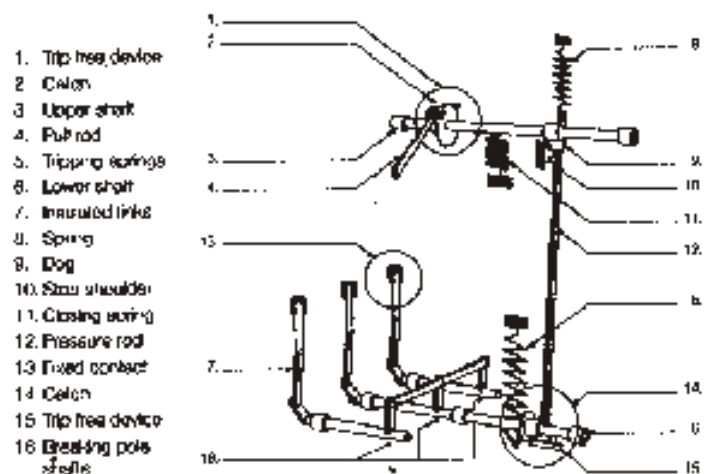
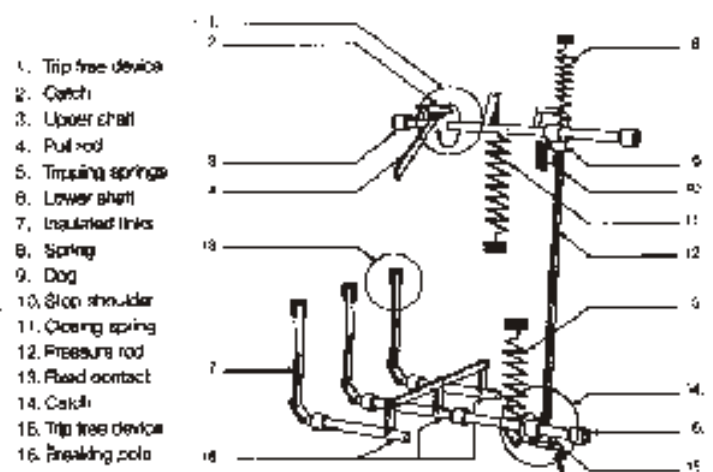

Fig 14B
Fig 14C
In figure 14B the breaker has closed and at the same time the opening spring (5) has been charged. Driving disc (9) comes to rest against stop (10) which, via link (12) and trip-free device (14) also prevents the opening spring turning the breaker pole shaft (6). Now the charging device starts and link (4) moves upwards until latch (2) is engaged. At this point link (4) turns and begins to move downwards, whereupon the upper shaft turns and retentions. The closing spring position is reached according to fig.14C.